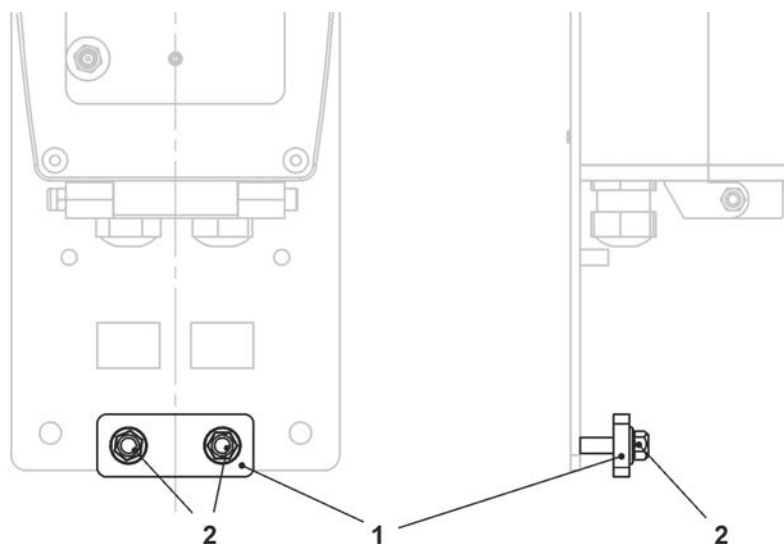

Fig. 24-4 Strain relief for sensor cables (for Ex units)
6. For Ex units, push the sensor cables through underneath the plate (Fig. 24-4 Pos. 1) of the strain relief. If necessary, the two nuts (Fig. 24-4 Pos. 2) must first be loosened slightly.
10. Pinch the sensor cable (without tensile load downwards) by tightening the nuts of the strain relief (Fig. 24-4).